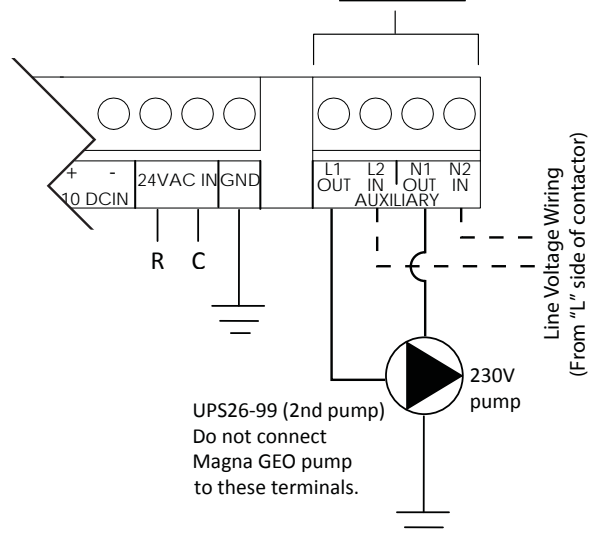

Figure 5: High Voltage to 2nd pump
6. Complete high voltage wiring to second pump (if applicable). If a second pump is installed, the second pump must be wired to the Grundfos controller, so that the relay in the controller can engage/disengage the pump based upon heat pump operation (for example, first or second stage operation/flow rate). Refer to Figure 5 for wiring. Run high voltage wiring from the “L” side of the compressor contactor to the Grundfos controller terminals. Run wiring from the controller to the second pump. Wiring must meet applicable code requirements, including requirements for wire protection, such as conduit. Wire size must be at least 14 AWG copper conductor.